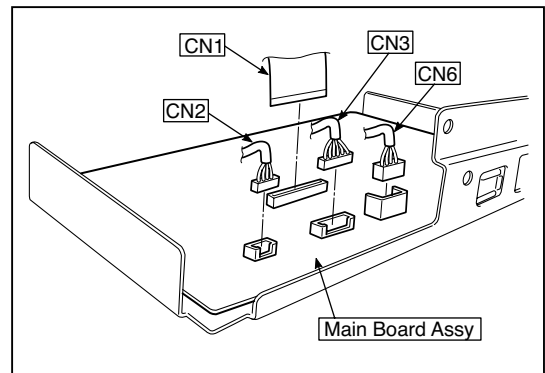

Fig.3
- 3.Disconnect the connector (CN1,2,3,6) connected to the Main Board Assy shown in the figure 3.(See Figs. 3 and 4,5.)